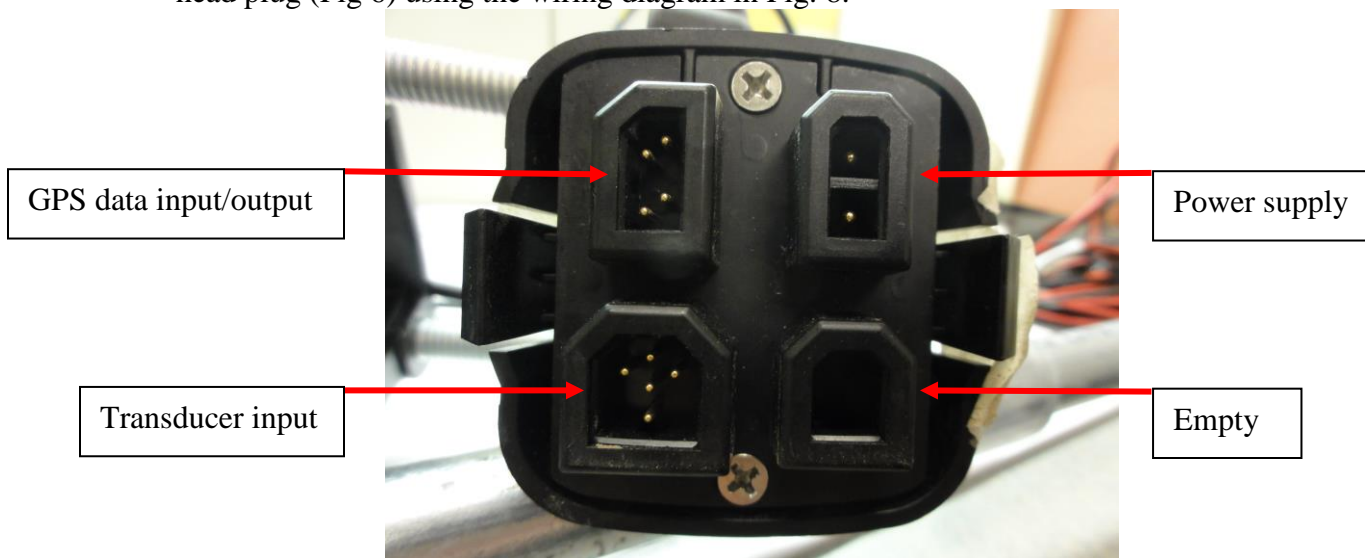

Fig. 6: Control head plug.
11) Wire the transducer, GPS and power supply to the controller head via the control head plug (Fig 6) using the wiring diagram in Fig. 8.